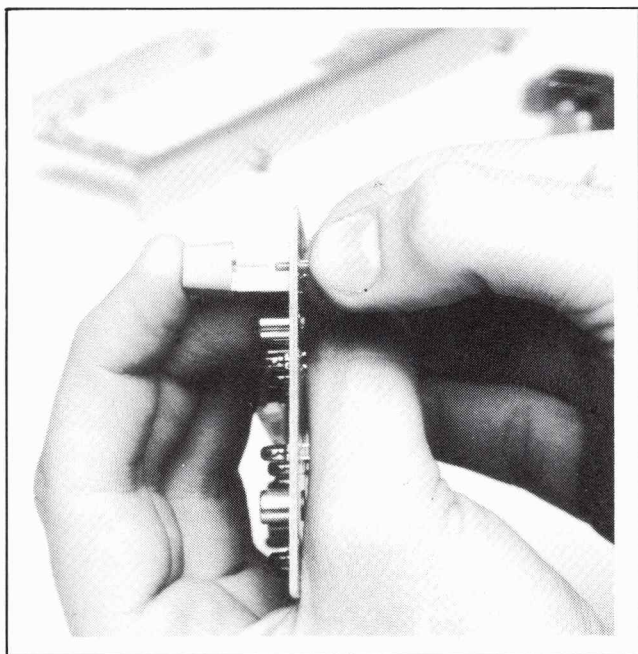

Figure 5-21. Display P.C. Board Switch/LED Alignment.
j. Grasp LED leads (back side of Display P.C. Board assembly) and pull LED flush against front side of Display P.C. Board assembly (Figure 5-21).